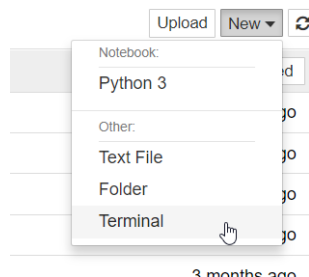

Figure 1: Opening a terminal in the Jupyter Notebook
5. Open a Jupyter Notebook session and click **New → Terminal** to open a **PYNQ** Linux terminal within the Notebook as shown in Figure 1.